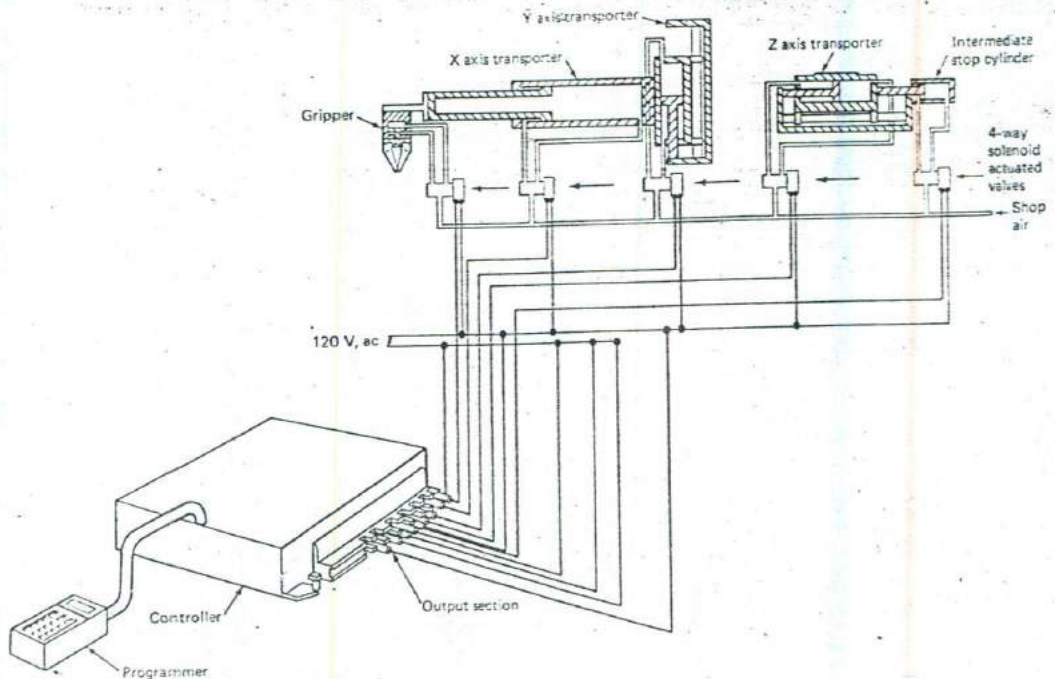

Fig. 15-26 Programmable controller. (Mack Corporation)
Programmable controllers can be used with low-technology robots, as shown in Fig. 15-26. The *X*, *Y*, and *Z* axes are controlled along with the gripper. There is also an intermediate stop cylinder that works in conjunction with the *Z* axis. The total number of outputs is 5, which is easily within the capacity of a small programmable controller. Other outputs may be required to move the work piece out of position after the robot completes its cycle and to bring the next work piece into position. Inputs on the controller will normally be used to determine the proper position of the work piece before the cycle is initiated. The inputs may also include operator commands or commands from another computer controlling the overall production process. Another way to use inputs is to read limit switches that signal manipulator position. The following sequence is typical for a nonservo-controlled robot and will help you understand the programming steps:
- How would the sequence be changed with the system shown in Fig. 15-26?
- How many positions can the robot shown in Fig. 15-26 stop at along the Y axis? The Z axis? Why is this so?